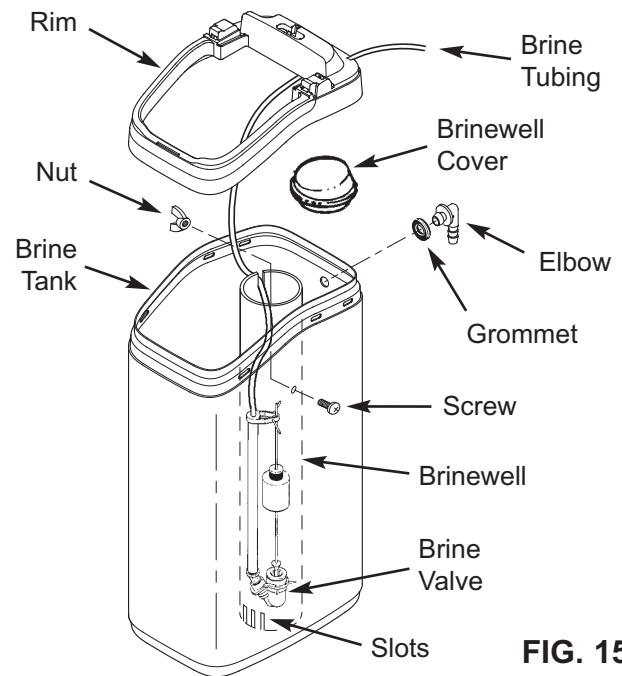

FIG. 15
- a. Snap the rim into place on the brine tank (See Fig. 15).
- c. Lower the brine valve into the brinewell. Push the tubing into the brinewell top slot (Fig. 15) and route it out through the hole in the back of the rim.